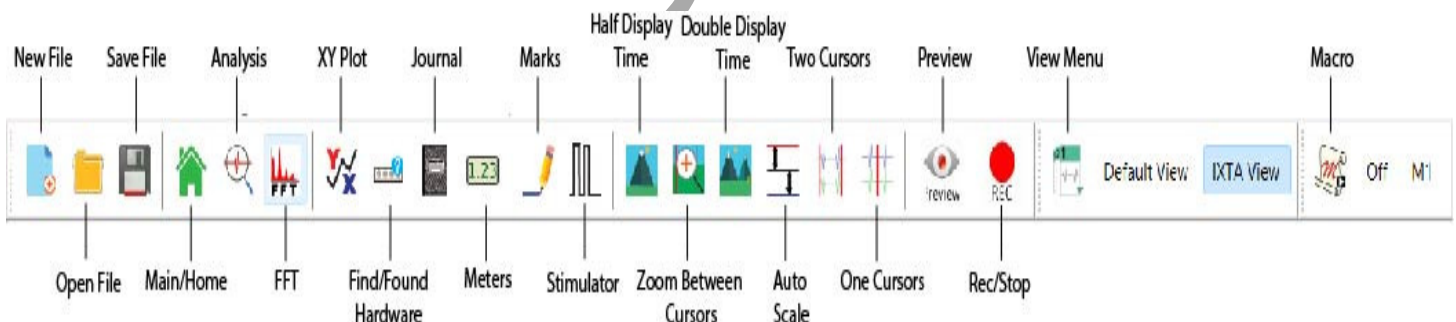

Figure AMe-1-S3: The LabScribe toolbar.
Figure AMe-1-S4: The voltage outputs of the two sensors in the gas analyzer; carbon dioxide on the top and oxygen on the bottom. Other recording windows have been minimized to show detail.
5. To convert the voltages on the Expired CO₂ Concentration (%) channel, click on the arrow to the left of the channel title to open the channel menu. Select Units from the channel menu, and select Advanced from the Units submenu. *Figure AMe-1-S5: The Advanced Units Conversion dialogue window with the voltages between the cursors set to equal the concentrations used in calibration.*